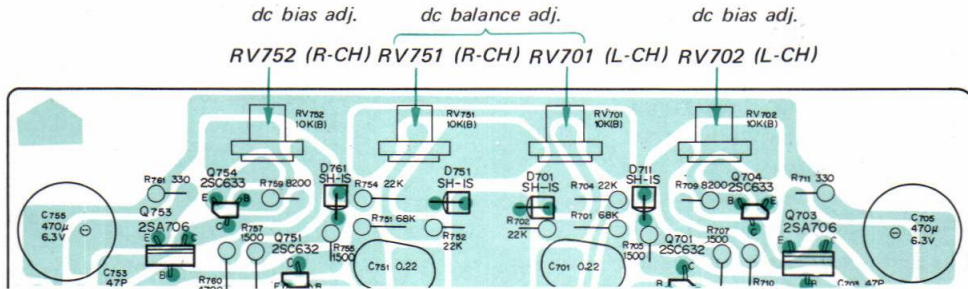

Fig. 3-15. Parts location
1. Set the semi-fixed resistors (Fig. 3-15) on the power-amplifier board as follows: